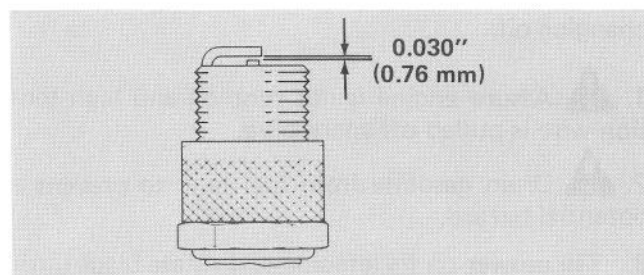

Figure 22
3. Set air gap between electrodes at 0.030 of an inch (0.76 mm) (Fig. 22). Install the correctly gapped spark plug with gasket seal and tighten plug to 15 ft-lb (20.4 N·m). If torque wrench is not used, tighten plug firmly.